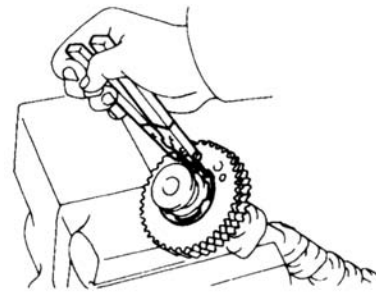

Figure 58
(4) Remove waved gasket, camshaft counter gear and the camshaft gear spring. See (Figure 58)